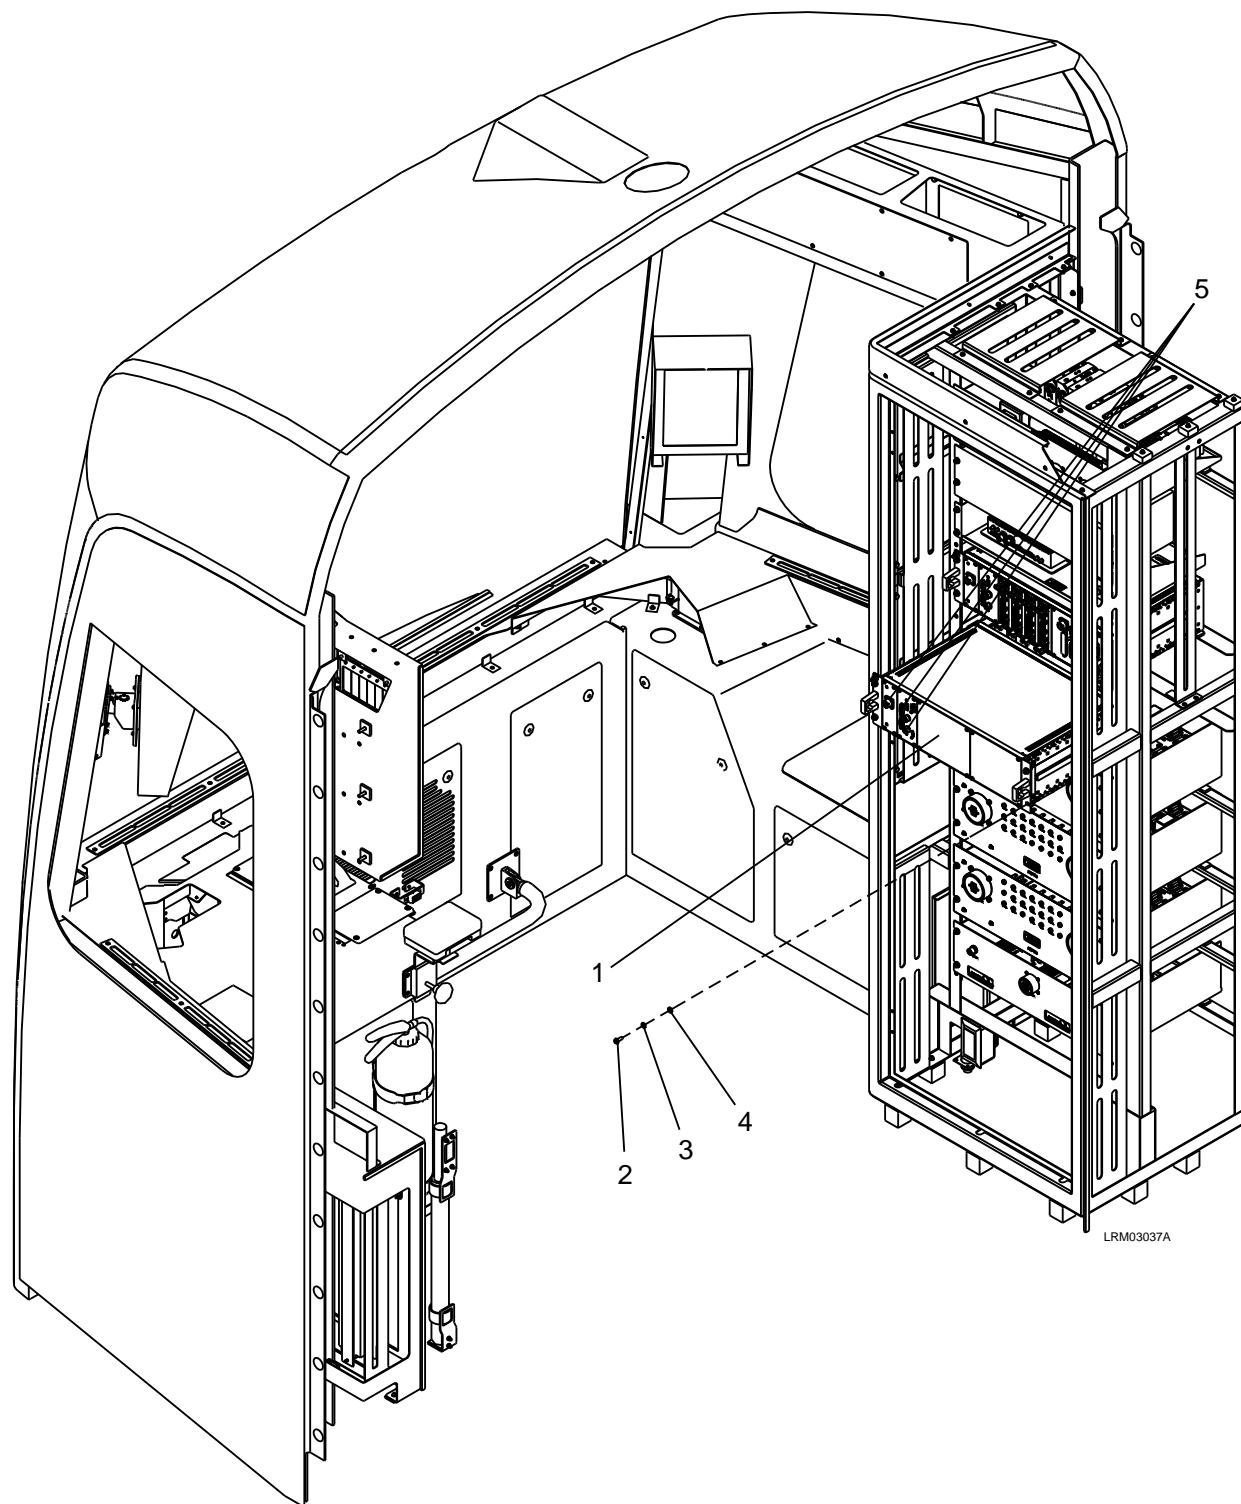

Figure 7-31: Event Recorder
2. Disconnect the electrical connectors (5) to the Event Recorder (1). See Figure 7-31.
3. Remove the four M6 x 16 screws (2), M6 lock washers (3), and M6 plain washers (4).
4. Carefully remove the Event Recorder (1).